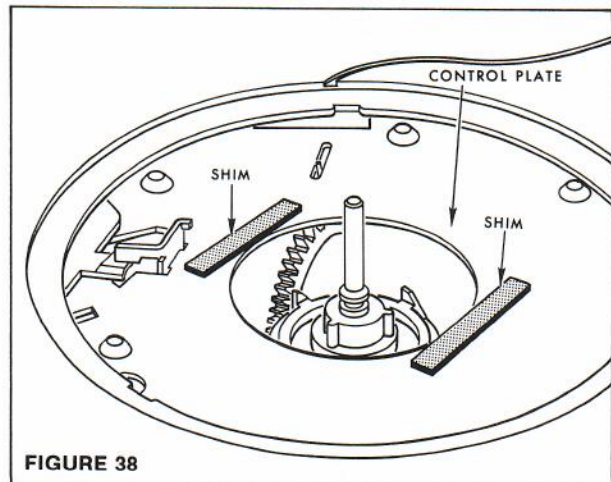

FIGURE 38
2. Turn the tool either out (A) or in (B); this action raises or lowers the spindle, Figure 38.
2. Place two .025-inch SHIMS over the spindle hole in the CONTROL PLATE, Figure 38.